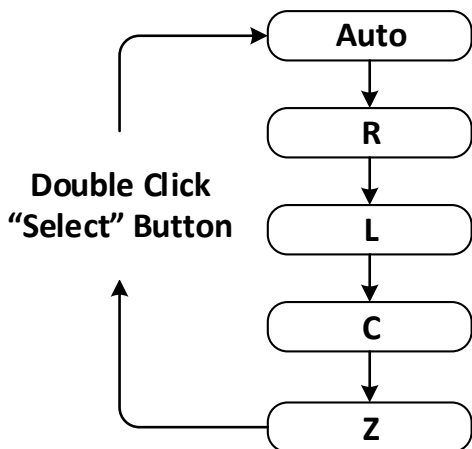

Figure 3-4: Switch Component Type by Double Clicking the "Select" Button
- Double click the "Select" button to switch component type as Figure 3-4 shows.